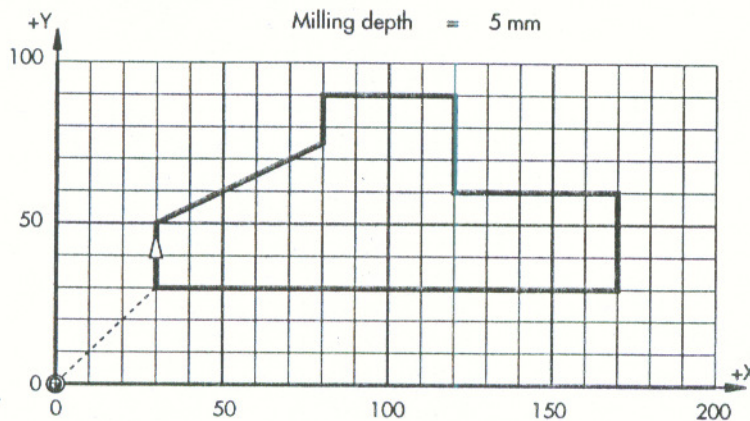

Fig Q6.1: Truck Profile
- Write an AutoLISP program in AutoCAD to generate a drawing of the bold profile shown in Fig Q6.1. The program should calculate the mass automatically given the thickness is same as the milling depth. Assume the density of material is entered by the user. [14]